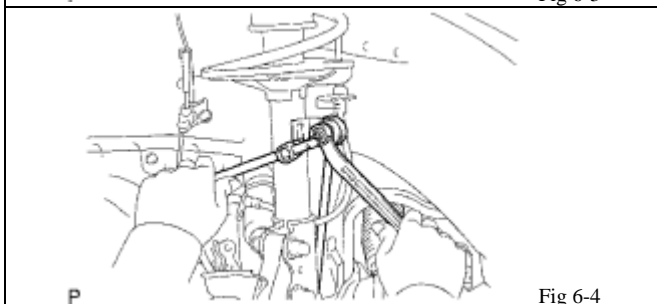

Fig 6-4
- (d) Install the stabilizer link to the shock absorber with coil spring with the nut. (Fig 6-4)